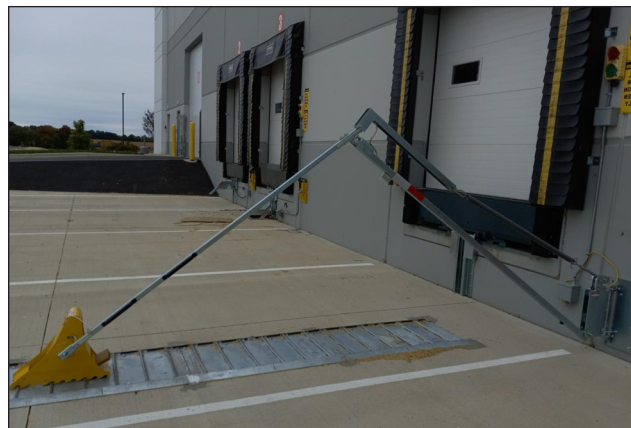

Figure 50
1. Verify articulating arm operating range. Extend arm and confirm it can travel to last section of ground plates. See **figure 50**.